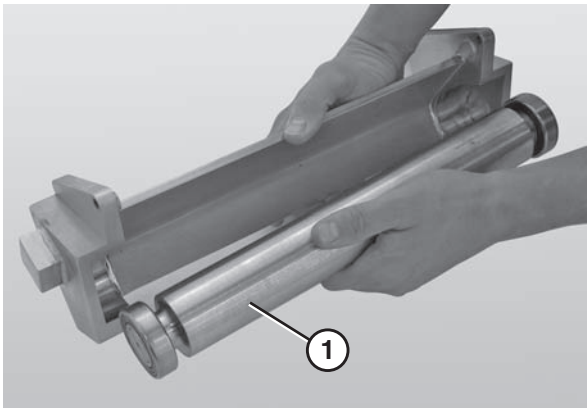

Figure 78
6. Remove the nose bar return spindle (**Figure 78, item 1**).